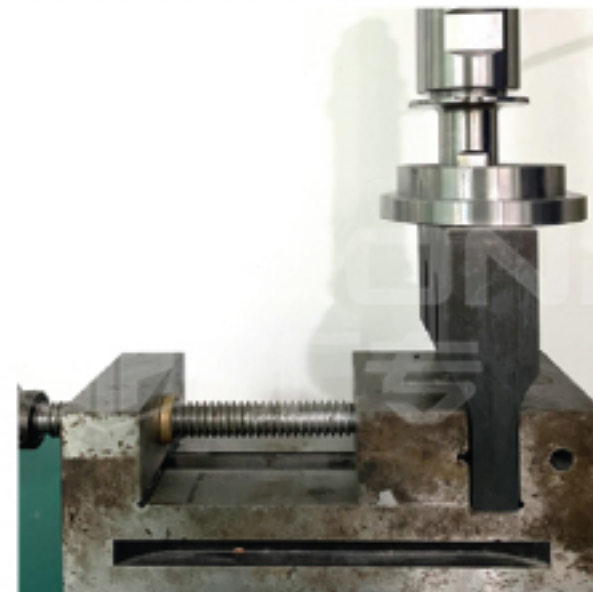

Figure 4
(4) Tighten the transducer to the three-jaw chuck after connecting it to the welding head (the connecting screw rod shall be mounted in the welding head first) (As shown in Figure 4).